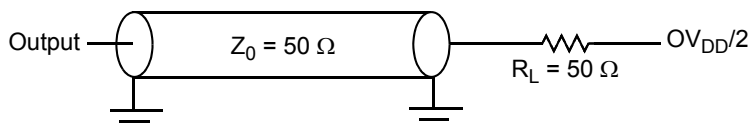

Figure 32. AC Test Load for the JTAG Interface
1. All outputs are measured from the midpoint voltage of the falling/rising edge of t_{TCLK} to the midpoint of the signal in question. The output timings are measured at the pins. All output timings assume a purely resistive 50-Ω load (see Figure 32). Time-of-flight delays must be added for trace lengths, vias, and connectors in the system.
2. The symbols used for timing specifications follow the pattern of $t_{\text{(first two letters of functional block)(signal)(state)(reference)(state)}}$ for inputs and $t_{\text{(first two letters of functional block)(reference)(state)(signal)(state)}}$ for outputs. For example, t_{JTDVKH} symbolizes JTAG device timing (JT) with respect to the time data input signals (D) reaching the valid state (V) relative to the t_{JTG} clock reference (K) going to the high (H) state or setup time. Also, t_{JTDXKH} symbolizes JTAG timing (JT) with respect to the time data input signals (D) went invalid (X) relative to the t_{JTG} clock reference (K) going to the high (H) state. Note that, in general, the clock reference symbol representation is based on three letters representing the clock of a particular functional. For rise and fall times, the latter convention is used with the appropriate letter: R (rise) or F (fall).